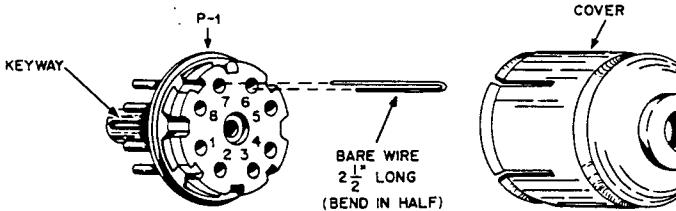

FIGURE 15. HOW TO WIRE THE ACCESSORY PLUG
- Clamp the plug, P-1, in the position shown in Figure 15 (if you use a vise be careful not to break the plastic). "Tin" the inside of pins 6 and 7 by melting a small amount of solder into them with your soldering iron. Solder a 3" piece of bare wire in pins 6 and 7 pushing it in as far as it will go while the solder is melting. Cut off the excess wire that protrudes beyond the pins. Scrape off any excess solder on the outside of the pins with a knife.